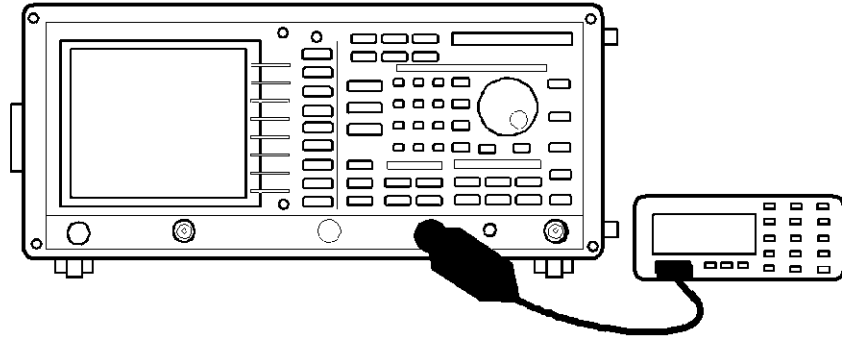

Figure 5-2 Setup of CAL OUT Level Accuracy Test
5. Connect the power sensor as shown Figure 5-2.